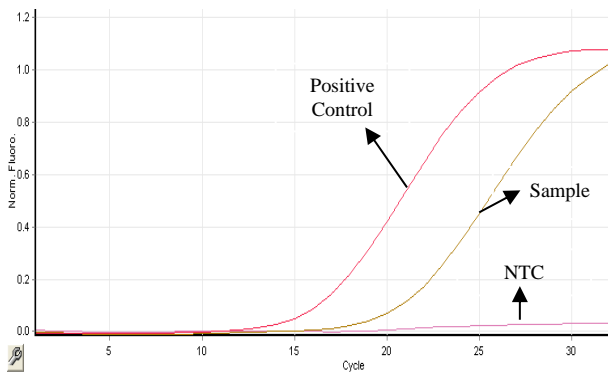

Figure 4 Curve of sample with mutant BRAF gene
- a) If FAM Ct value is < 26, the result is determined as **positive** (refer to Figure 4).